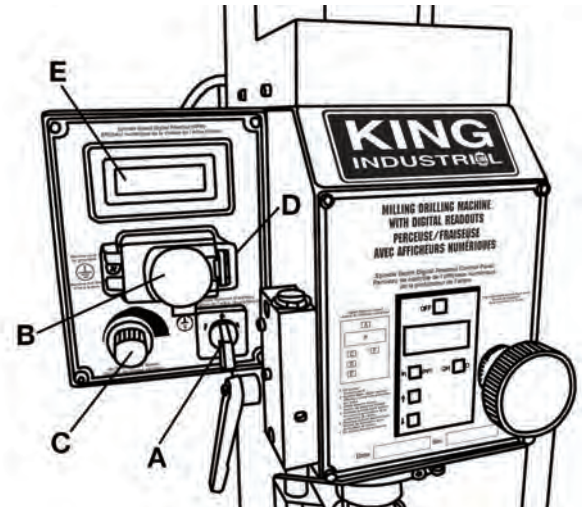
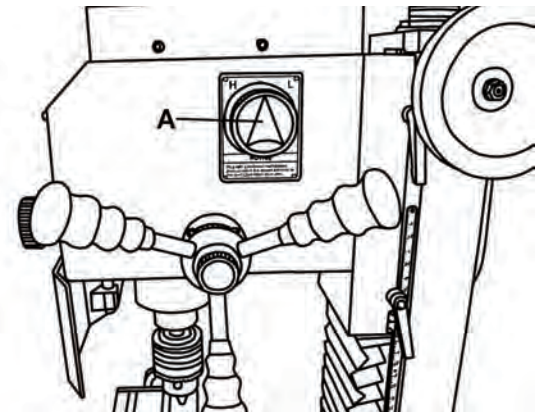

FIGURE 7
FIGURE 8
- 1) Make sure the forward/reverse switch (A) Fig.7 is set in the "0" (OFF) position and then press the emergency STOP button (B).
- 3) Turn the high/low speed selector knob (A) Fig.8 to the "L" (low) position and rotate the spindle variable spindle knob (C) Fig.7 all the way to the left (slowest) position.
- 4) Squeeze the tab (D) Fig.7 on the emergency STOP button, pull it open, then press the green "ON" button. Place the forward/reverse switch (A) Fig.7 in the "F" (Forward) position. The spindle will begin to turn at a low RPM.
- 7) While watching the spindle speed digital readout (E) Fig.7, turn the spindle variable speed knob until the milling/drilling reaches approximately 600 RPM, then let it run for a minimum of 10 minutes.